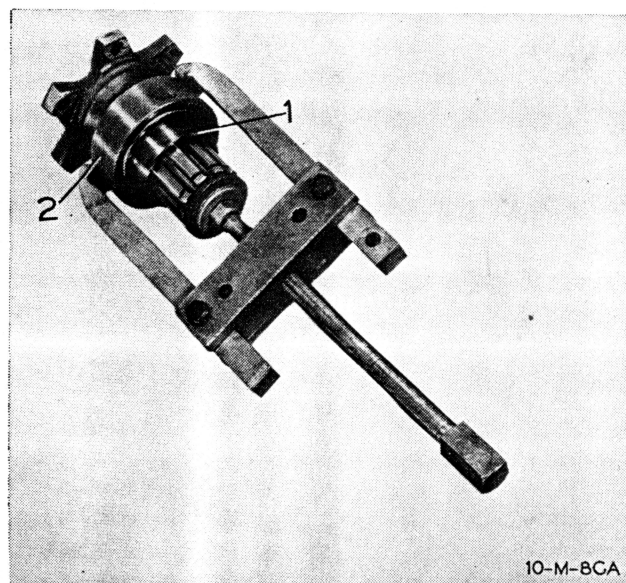

Fig. 141
5. Remove retaining ring and quill shaft rotor hub bearing from quill shaft. Fig. 141.